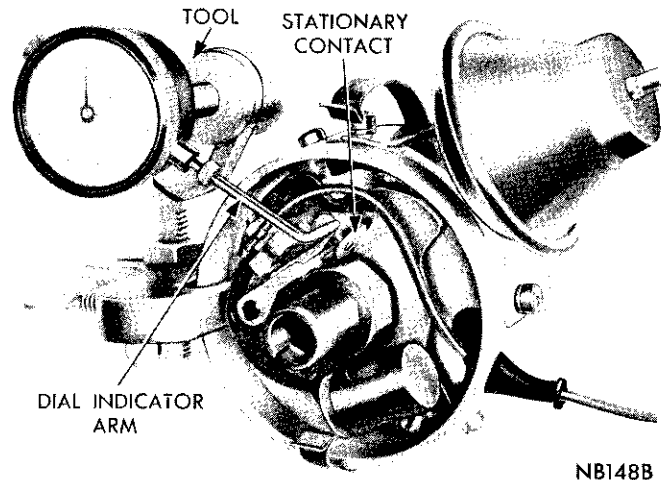

Fig. 8—Adjusting Contact Clearance with Indicator
- (1) Loosen terminal screw nut, and remove primary lead and condenser lead.
- (2) Remove stationary contact lock screw and remove old contact set.
- (3) Install a new contact set; the sleeve at one end of adjustable bracket fits over and pivots on upper contact plate mounting pin.
- (4) Connect condenser and primary leads.
- (5) Align contacts, if necessary, by bending stationary contact bracket only. **Never bend** movable contact arm to obtain alignment.
- (6) After aligning contacts, adjust contact clearance to "Specifications," using dial indicator (Fig. 8). Recheck contact arm spring tension.
- (7) Test dwell angle to show proper degree of closure. See Paragraph, "Distributor Contact Dwell."